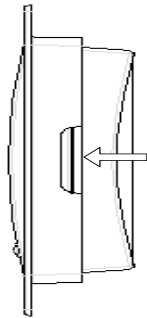

Figure 7: Remove Flush Mount Casing
1. Remove the Display panel from the device by gently pressing outwards on the rear openings (Figure 7).